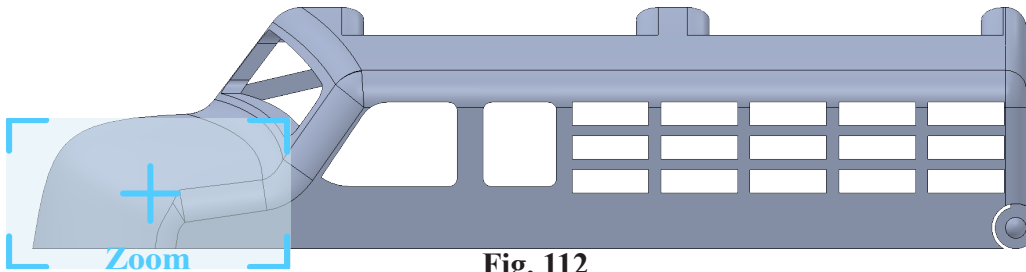

Fig. 112
Step 3. Zoom in on front, **Fig. 112**.